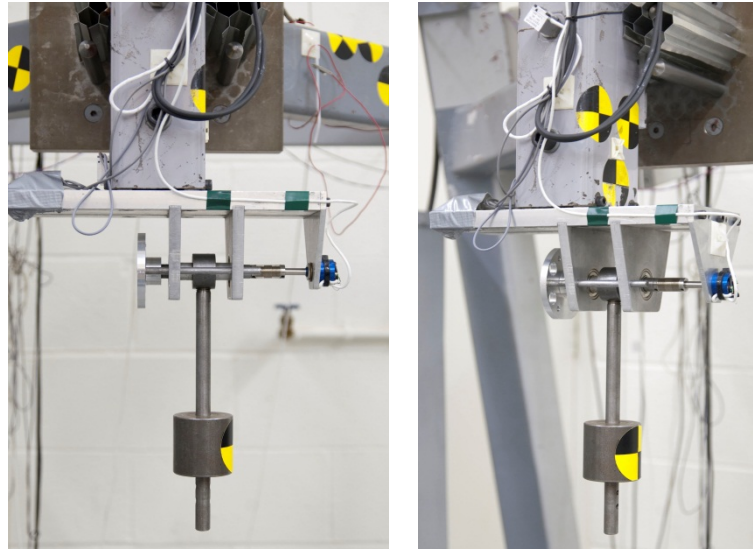
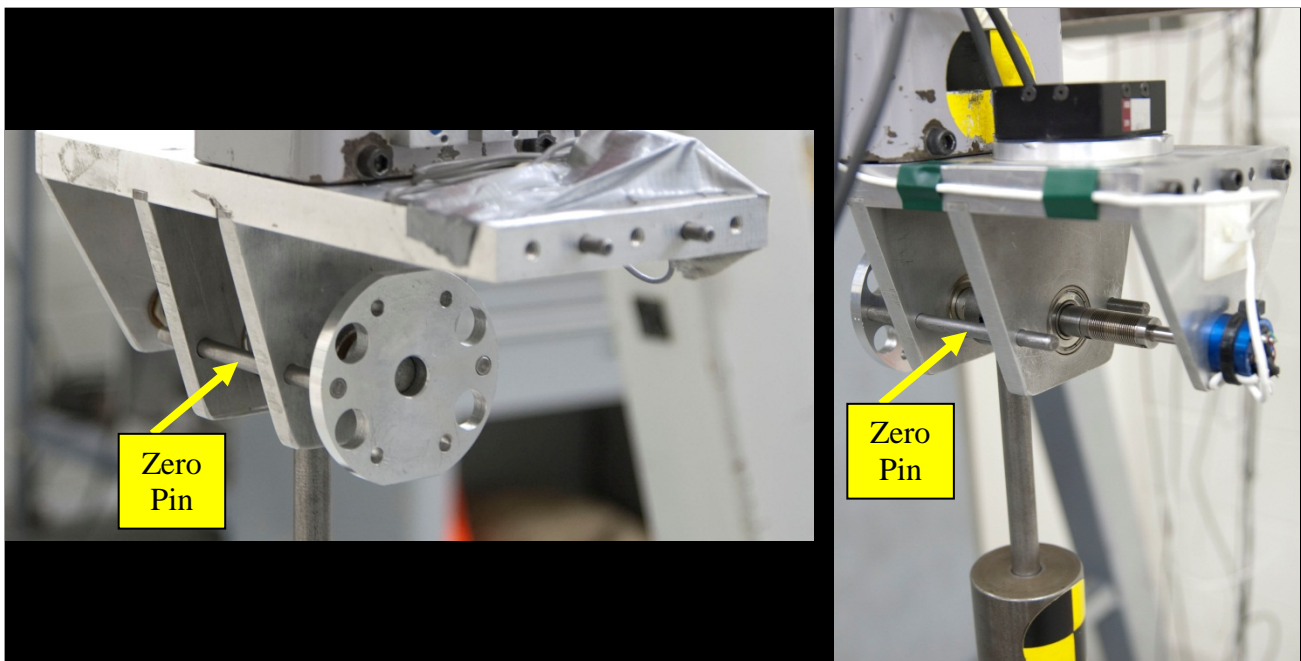
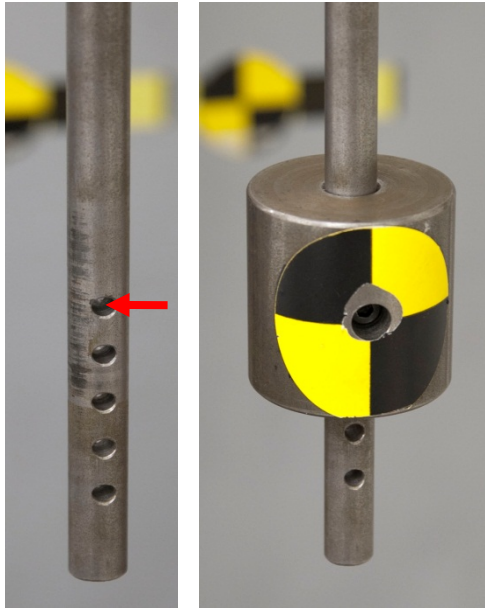

Figure 48. Torsion fixture (without neck) installed on pendulum
Figure 49. Neck torsion fixture details (neck not installed)
Figure 50. Placement for torsion
- Install the neck torsion fixture assembly to the bottom of the test pendulum using four (4) $\frac{1}{2}$ - 20 x 1" SHCS (Figure 48 and Figure 49). Be sure the zero pins are installed into the neck adapter plate assembly in the fore-aft positions (Figure 49) and the pendulum weight on the torsion fixture is properly located on the pendulum rod assembly (Figure 50).
- The potentiometer and load cell transducers must measure zero rotation when the neck is not in torsion. Prior to testing, with the zero pins (Figure 49) in place, remove the bias on these test data channels. No further pre or post-test bias removal of these data signals shall be performed.